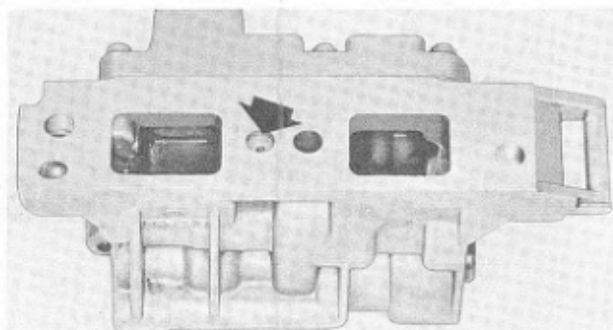

Fig. 2
3. Remove the pressure regulator valve assembly and note whether or not the converter return passage is restricted to approximately 3/32" in the valve body (indicated by arrow in Fig. 2). If the converter return oil passage has a restriction, disassemble the unit and carefully enlarge the orifice by drilling with a 9/32" drill. Opening this passage to 9/32" speeds up the oil flow through the converter.